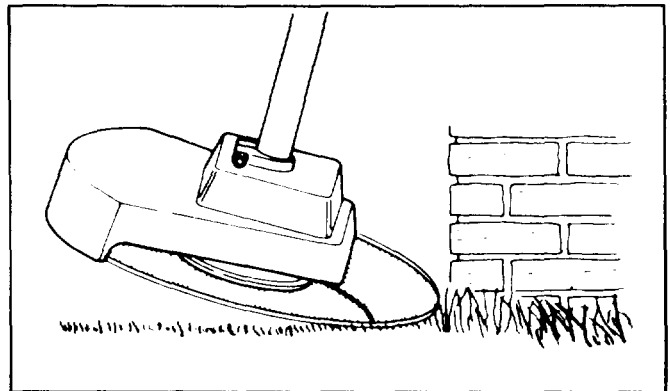

Figure 6
OPERATING TIPS (Figs. 6 & 7)
2. Do not force the unit. Remember, it is only the tip of the cutting line that does the job. Forcing the line against an object like a foundation wall or fence could cause the line to break (Fig. 6).